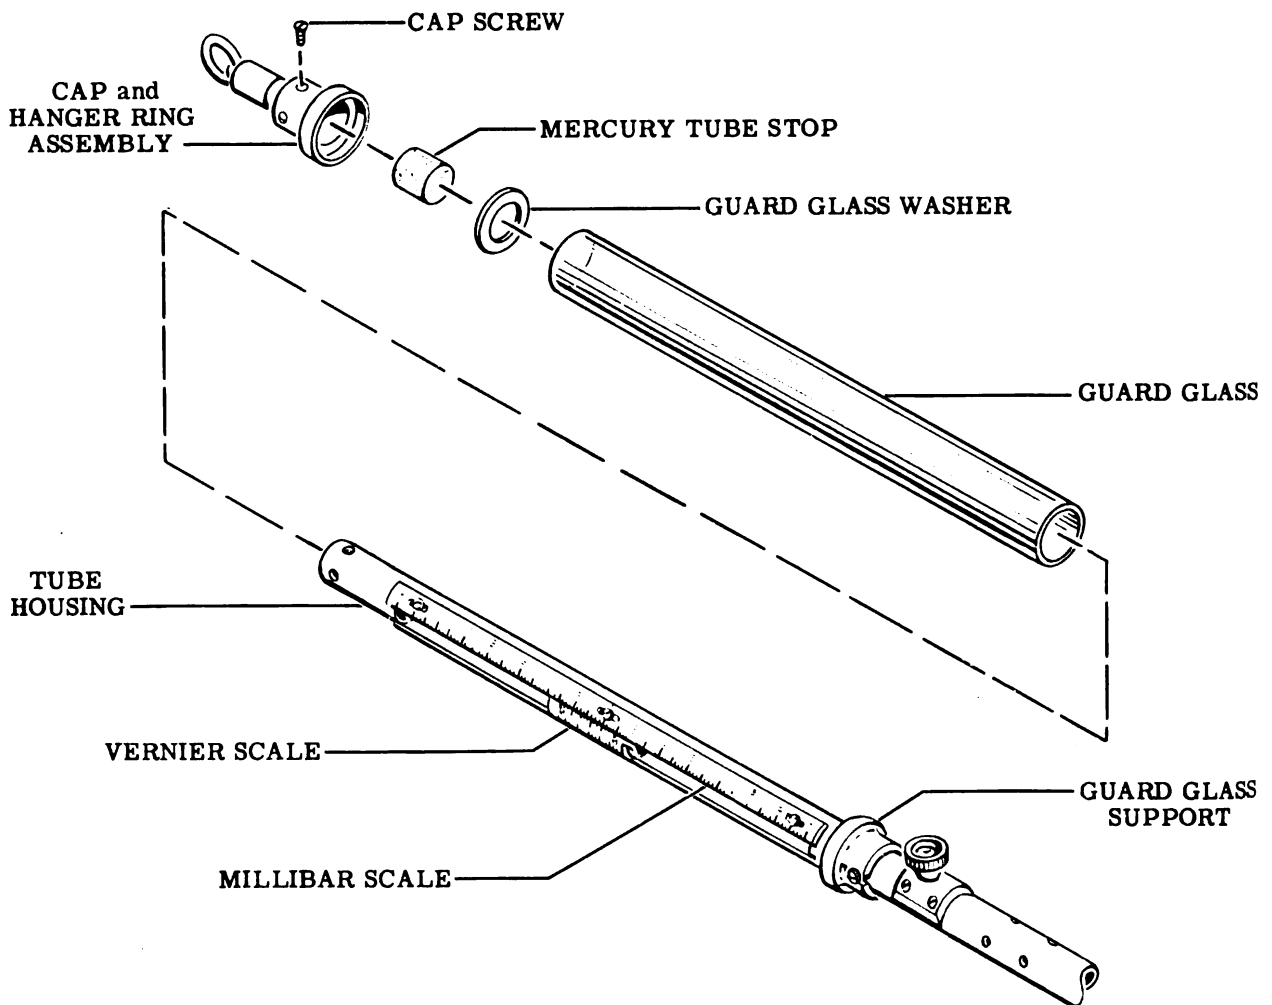

Figure 9
15. Remove the four cap screws from the cap and hanger ring assembly. Pull the assembly off the end of the tube housing, then remove the guard glass washer from inside the assembly. See the exploded view, Fig. 9.
16. If it has not already been removed, slip the guard glass out of the guard glass support, and remove it from over the barometer scales. See the exploded view, Fig. 9.
17. Remove the mercury tube stop from inside the tube housing. See the exploded view, Fig. 9.